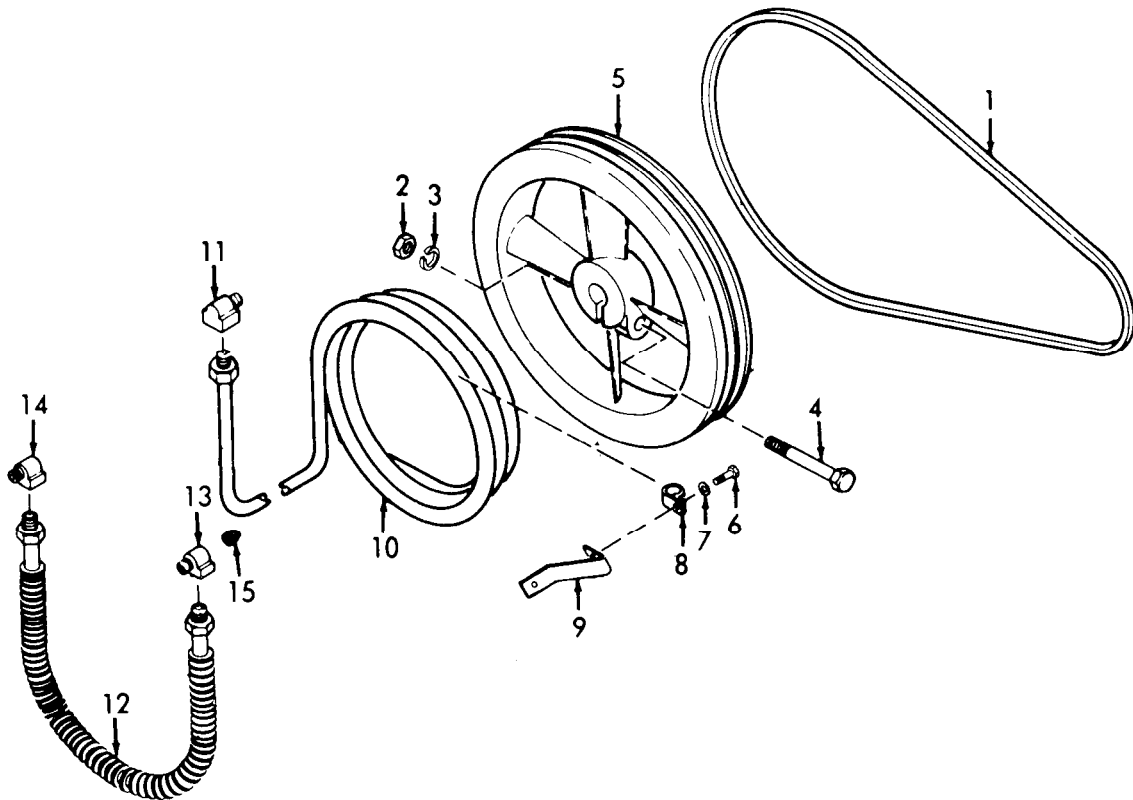

Figure 14-7. Fanwheel Aftercooler and Intercooler, Exploded View.
- (1) Refer to figure 14-7 and remove fanwheel aftercooler and the intercooler in numerical sequence.
## LEGEND FOR FIGURE 14-7: